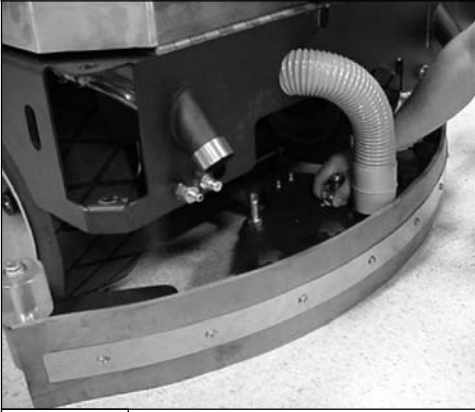

FIGURE 14.
1. TURNING ADJUSTMENT KNOB CLOCK-WISE (TIGHTENING) WILL RAISE TIPS & LOWER CENTER. (SEE FIGURE 14.)